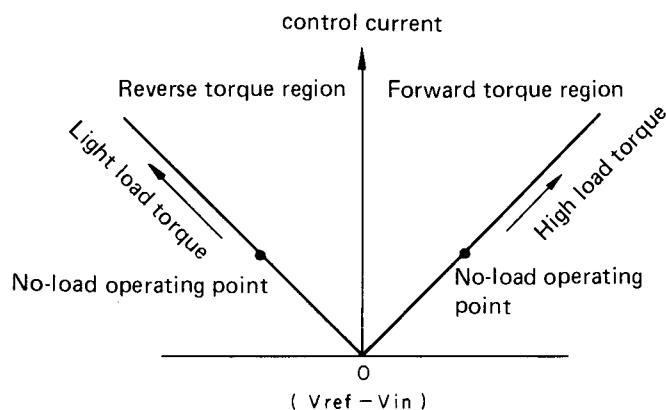

Fig. 12-7 Input/output characteristics
1. The signal at the 6 pin (control input) is compared with the signal at the 5 pin (reference voltage) and the difference in voltage is used to generate current in the motor winding. The input/output characteristics are shown in Fig. 12-7.